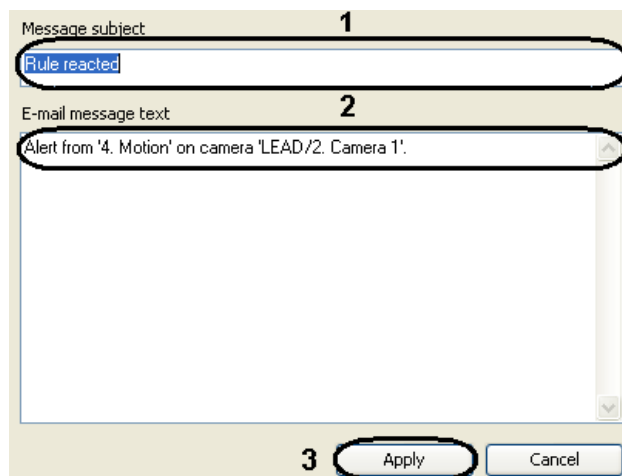

Fig. 6.5—34 E-mail message
5. In the **E-mail message text** field (see Fig. 6.5—34, 2), enter the text which should be sent in an E-mail message when the detector is triggered.
6. To close the window and save changes, click **Apply** (see Fig. 6.5—34, 3).